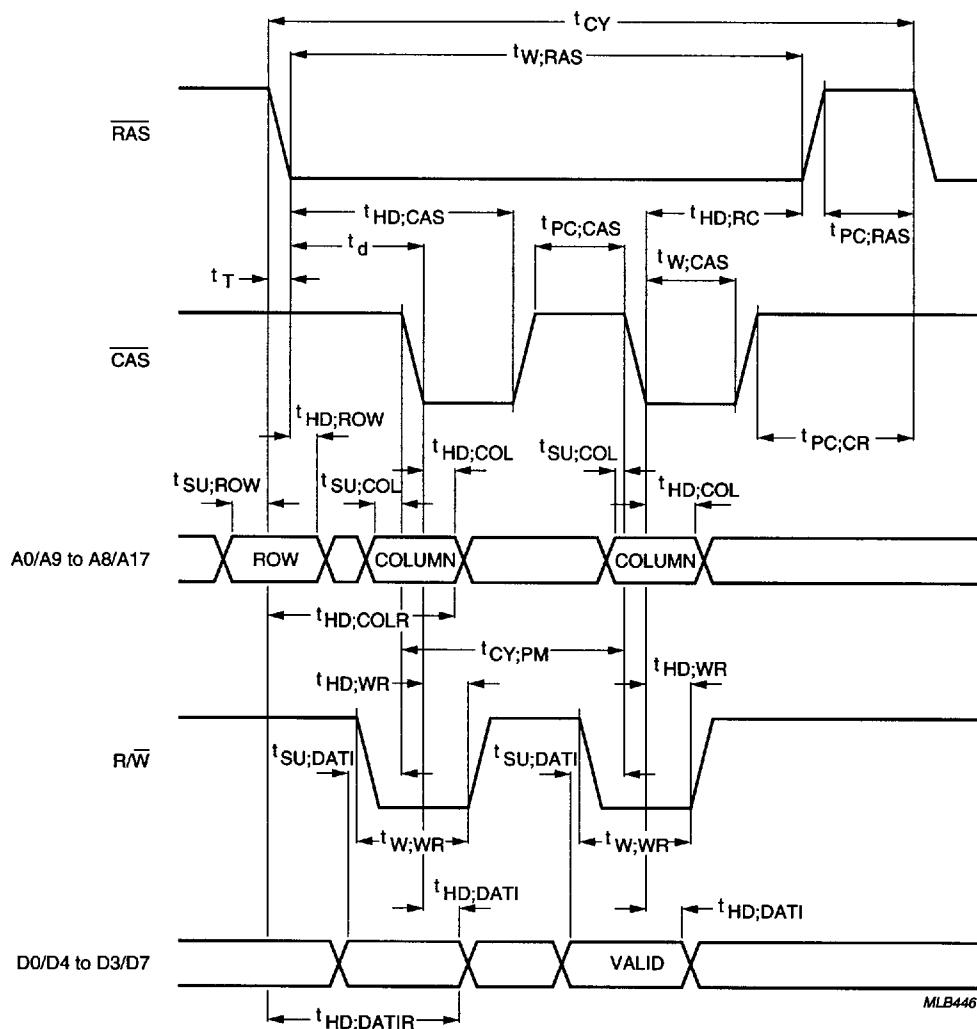

Fig.5 Memory interface timing for write cycle to external DRAM.
MEMORY INTERFACE; NOTE 14; FIGS 5 AND 6
14. For details of memory interface timings to and from external DRAM see Figs 5 and 6.